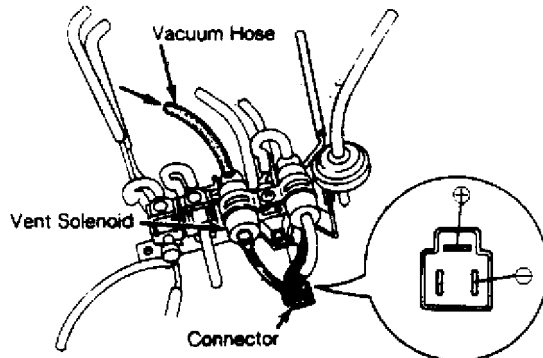

Fig. 6: Vent Solenoid Valve
2) Apply power to vent solenoid terminals. See Fig. 6. Blow through vent solenoid valve from intake tube and make sure that air passes. If vent solenoid does not pass air, replace unit.